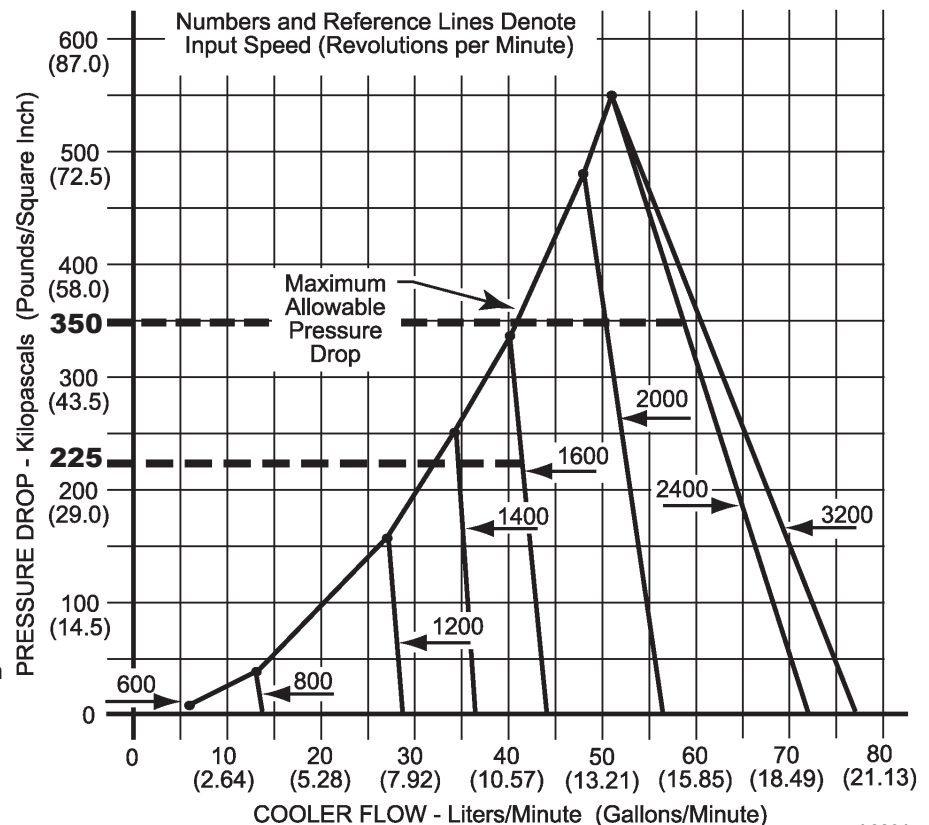

Figure C-2: Example Showing Cooler Circuit Pressure Drop for 3000 Product Family
The pressure drop values are plotted on the 3000 Product Family graph in Figure C-2. Both measurements are below the maximum allowable pressure drop, so the cooler circuit restriction is acceptable.
- In Appendix C, Step 7 example, changed engine speed from 1400 rpm to 1600 rpm in order to be consistent with Figure C-2.